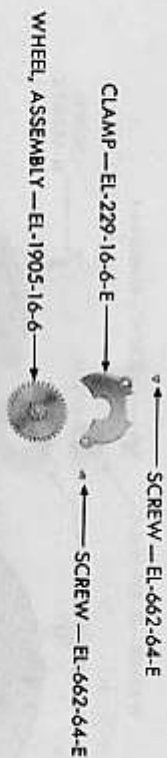

Figure 86 — Elgin Pocket Watch — Wind and Setting Assembly Removed
o. Remove Winding and Setting Subassemblies and End Stone Cap Assembly (fig. 86). Remove clutch lever screw and clutch lever. Remove minute wheel clamp screws, then remove minute wheel clamp and minute wheel. Remove lower end stone cap assembly screws and end stone cap assembly.
e. **Replace Winding and Setting Assembly and End Stone Cap Assembly** (fig. 86). Invert movement on movement block. Replace clutch lever, placing single end in the recess of the clutch and allowing the spring end to rest against stud of setting lever cam, which projects through hole in pillar plate. Secure with setting lever screw. Replace minute wheel and minute wheel clamp, and secure with minute wheel clamp screws. Replace lower balance end stone cap assembly above the balance hole jewel and secure in place with cap screws.